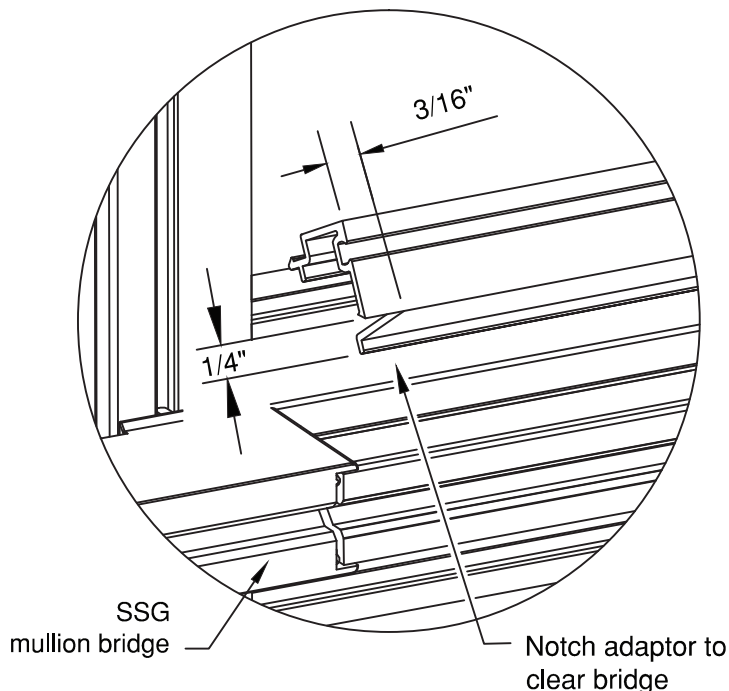
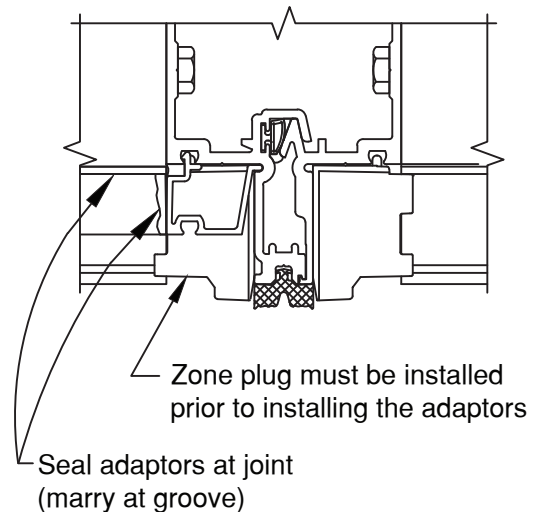

Figure 32
FIGURE 33
A.3 Install horizontal adaptors maintaining an equal gap at each end. **Note: For horizontal adaptors that are adjacent to SSG mullions, a small notch must be made to the tongue engagement hook in order to clear the SSG mullion bridge.** **SEE FIGURE 32.** Once all adaptors have been installed in the opening, seal all joints between the vertical and horizontal adaptors. Run a bead of sealant in the groove formed between the adaptor and mullion. This seal must be continuous around the opening and must marry with the seal at the horizontal to vertical adaptor joints. **SEE FIGURE 33.**